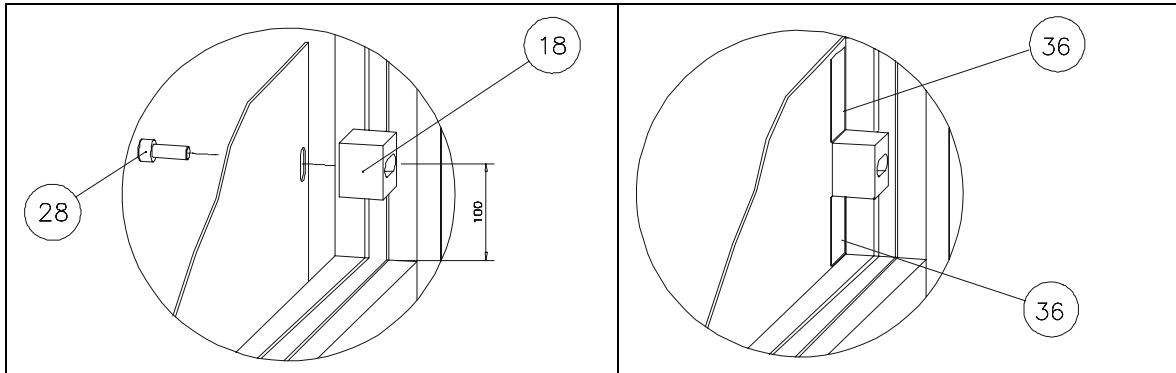

Figure 12: Attaching Side Panel to Frame
19. See Figure 12. Attach a multiblock (18) (insert the peg and rotate) to the inner side of each side beam, about 100 mm from the top and bottom end of each beam.
20. Affix the magnetic strips (36) to the inside wall of the welding booth as shown in Figure 12.